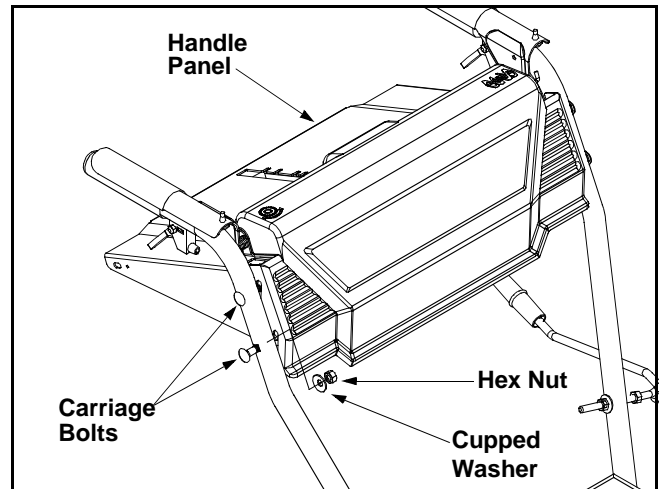

Figure 2
- Place the handle panel in position between the handles. To hold the handle panel in place, depress both controls against the handles. While continuing to hold the right control, release the left control (the auger control lock will keep left control engaged). See Figure 2.